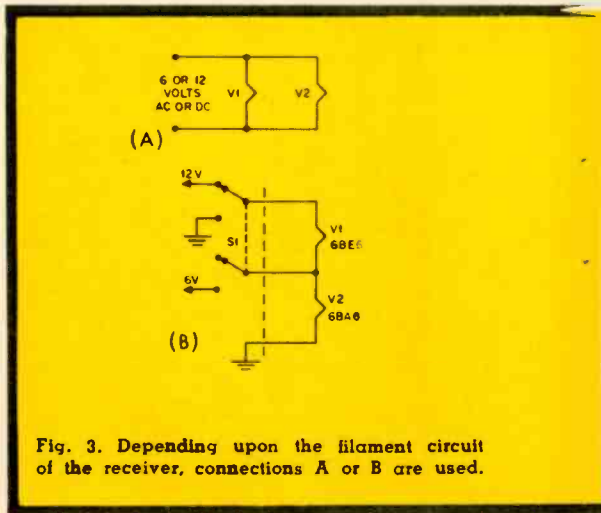

Fig. 3. Depending upon the filament circuit of the receiver, connections A or B are used.
Be certain the filament wiring mates with your receiver. The standard filament setup is shown in Fig. 3 (A). For 6-volt operation, the DCA uses a 6BE6 and a 6BA6; for 12-volt operation, 12BE6 and 12BA6. The circuit in Fig. 3 (B) is for receivers which use a 6-volt filament supply for line operation and a 12-volt supply for mobile. Filament voltage selector switch S1 is part of the receiver's original equipment.